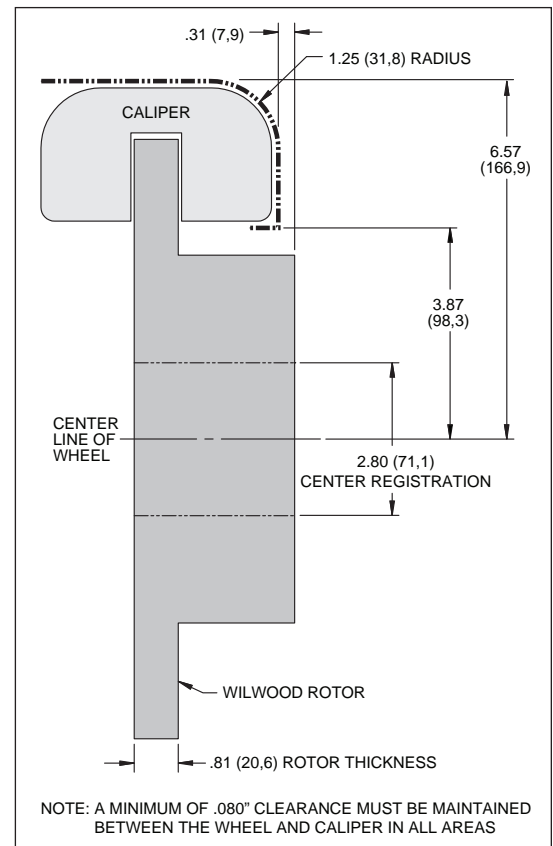

Figure 4. Wheel Clearance Diagram
- Review the Wheel Clearance Diagram (Figure 4, page 3) to verify that there is adequate clearance with the wheels you will be using with the installation.
- Verify your wheel clearance using Figure 4.